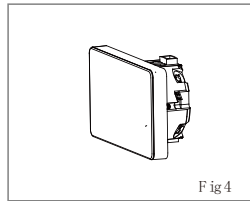

Fig 4
Step 4 : Installation complete.(Fig4).
Step 4. Fix the mounting plate into the wall with screws in the box. See Fig 4.